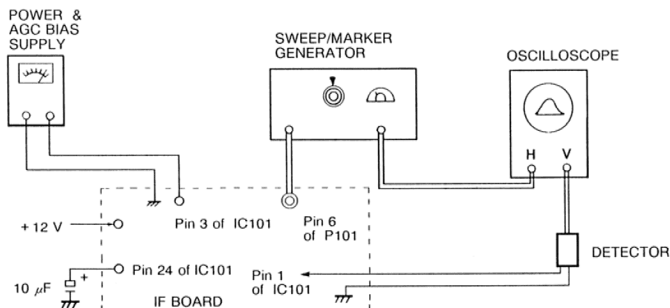

Figure 10. Picture IF Sweep Alignment
- GENERAL Refer to figure 10 for test equipment connection.
- SWEEP/MARKER GENERATOR Connect to the point 6 as shown in figure 10 on the IF Board.